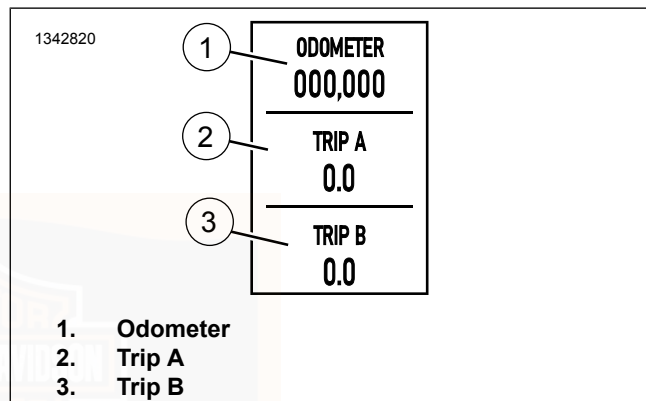

Figure 39. Trip Widget
See Figure 39. The trip widget displays the odometer reading (1), trip A (2) and trip B (3) mileage. The trip widget can also be configured from the settings menu to display trip K.